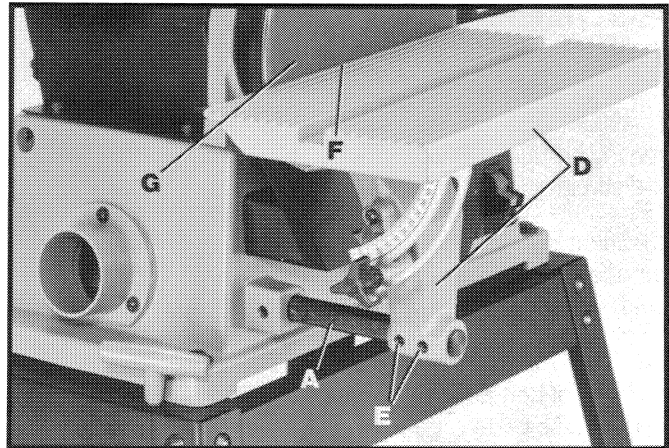

Fig. 15
2. Slide table assembly (D) Fig. 15, onto rod (A). Align flat on rod (A) with set screws (E) and tighten screws to hold table assembly (D) in position on support rod (A).
3. **WARNING: To avoid trapping the work or fingers between sanding disc and table, the table edge (F) Fig. 15, should be positioned a maximum of 1/16" away from sanding disc (G). Loosen screws (E) and adjust table accordingly.**